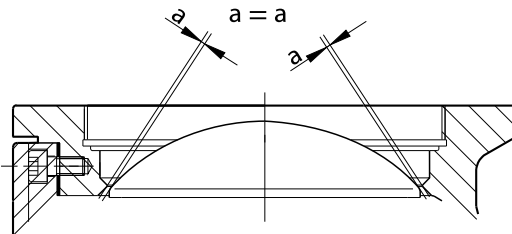

Fig.6-6 Centre ball segment
3. Ensure that the ball segment is centred with the valve body. The ball segment must not be attached with too much play or too tightly. There must be an evenly sized gap around the complete ball segment. This can be checked more precisely with a feeler gauge on the relevant shaft end (→ Fig.6-6). Set the position of the ball segment with the aid of shims.